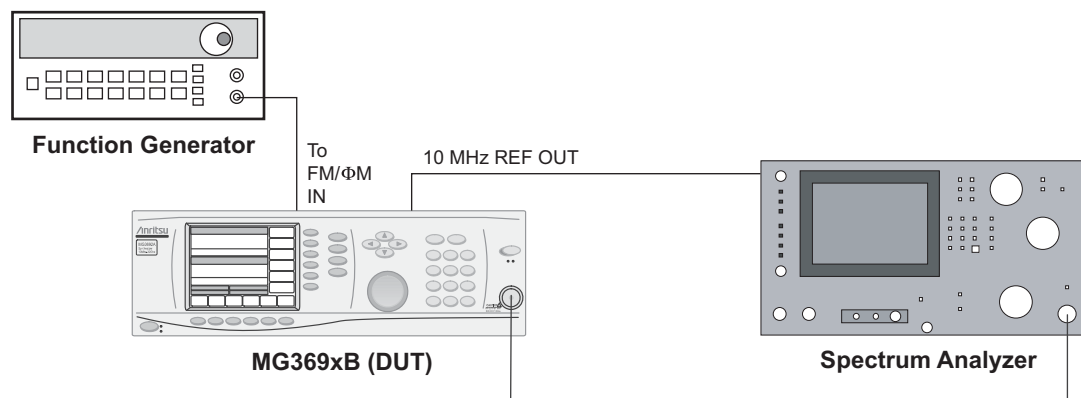

Figure 3-12. Equipment Setup for Frequency/Phase Modulation Flatness and Bandwidth Tests
Set up the equipment, shown in Figure 3-12, as follows:
1. Connect the equipment as shown in Figure 3-12.